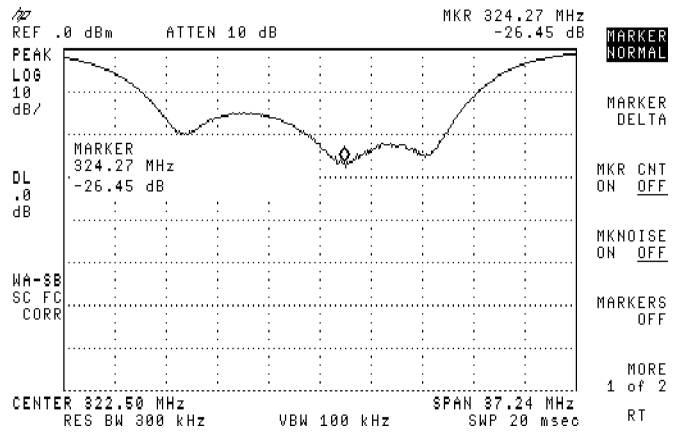

Figure 8-7. Measuring the return loss of the filter.
8. Use the marker to read return loss. Press **(MKR)** and position the marker with the knob to read the return loss at that frequency. Refer to Figure 8-7.